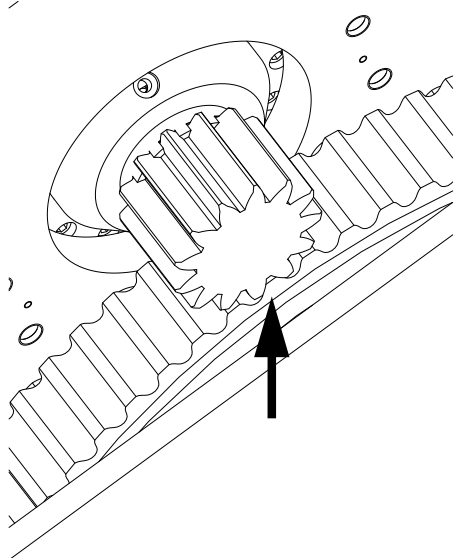

Figure 6-12
11. Refer to Fig 6-12, page 6-10, and tighten the retaining bolts in the sequence as indicated.